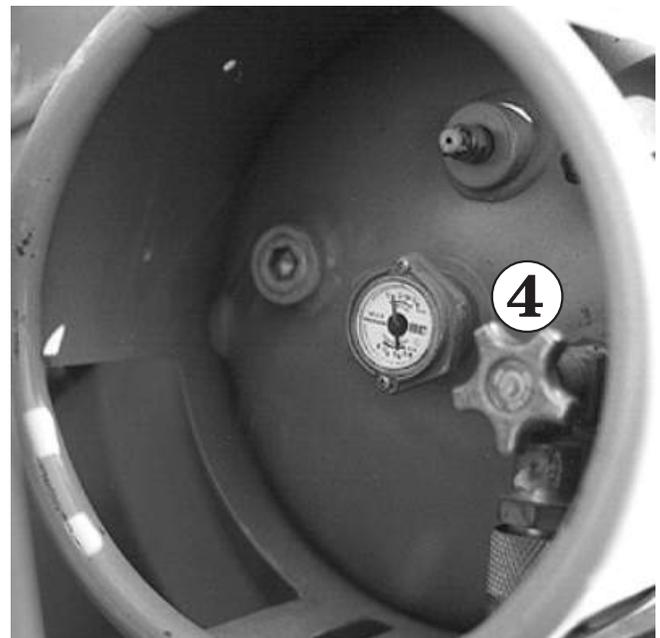

Figure 11.18
Completely open the valve ④ (see Figure 11.18) on top of the LP tank (unscrew counterclockwise until it stops).